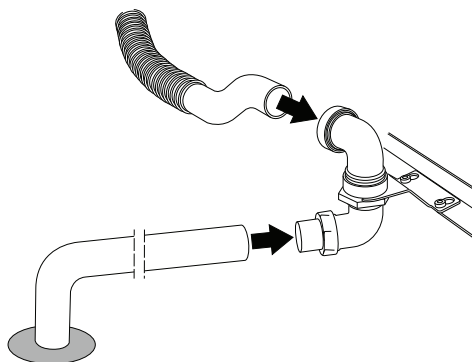

Fig. 7
2. Insert both drain pipes to the water trap. See Fig. 7.